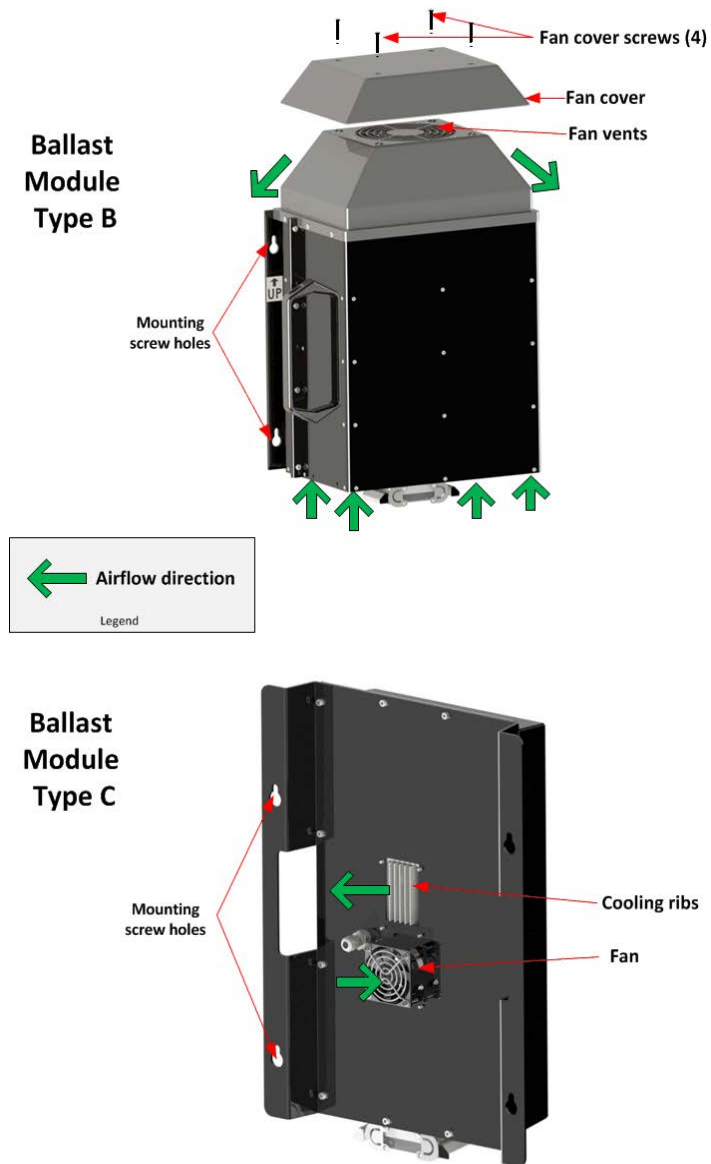

Figure 10-5: Accessing cooling fans
- Step 2.** For BM Type B, unscrew the 4 Phillips screws at the top of the fan cover and remove the fan cover - see Figure 10.5, on page 10-105.
- Check that air is being blown out of the fans of the Ballasts **Figure 10-5**